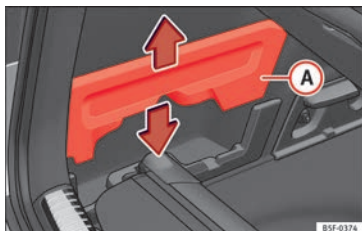

Fig. 169 In the luggage compartment: housing for storing the rear shelf.
- Remove covers »» Fig. 169 A left and right.